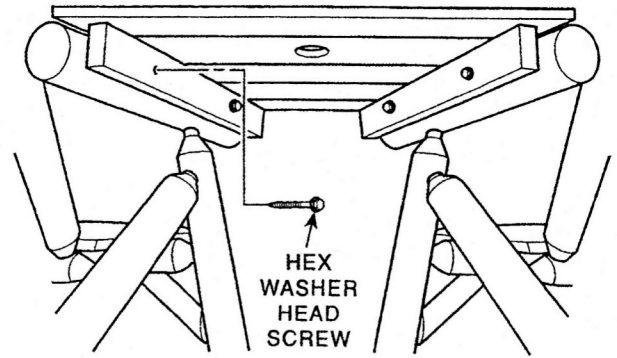

Figure 9
STEP 8 Position chairs so that the inside leg sets (table support arms) are next to each other. Adjust chair position until table top will set between the chairs and flush to the front edge of the arms. Attach the table to the chairs with four 3" hex washer head screws through predrilled holes in table cross-members. Figure 9.